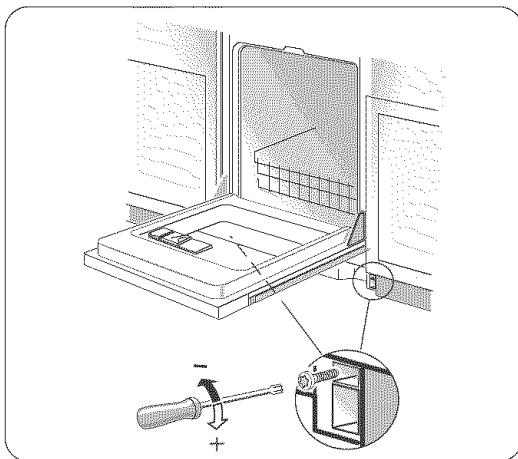

Figure 32
- 2 Insert the screws as shown in **Figure 32**. Turning the screw clockwise increases the spring tension.